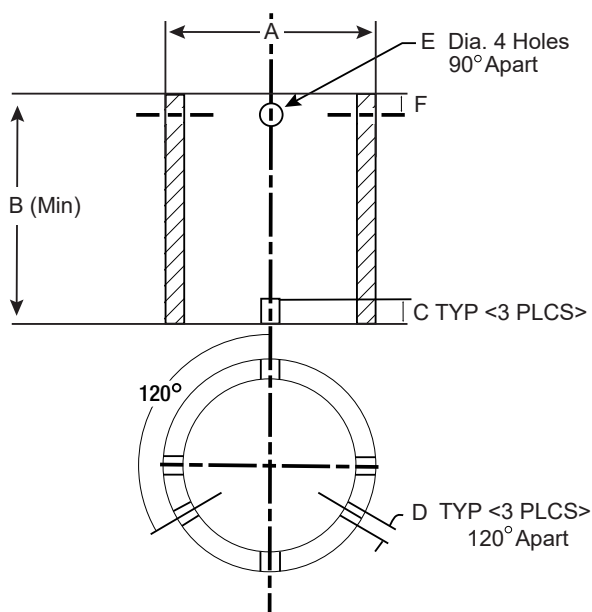
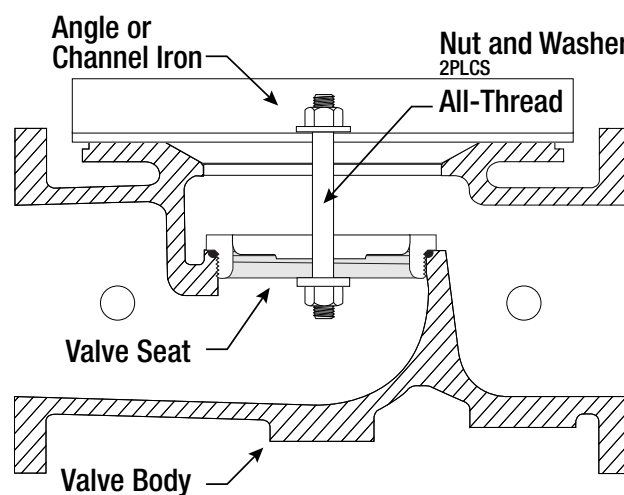

Figure 6
Figure 7
7. Inspect valve seat. If seat is not damaged, removal is not necessary. Valve seats 6" and smaller are threaded into the body of the valve and require a seat removal tool (Figure 6) (Table 1 details the tool dimensions for seat removal). Valve seats 8" and larger are held in the valve body with stainless steel cap screws. Remove seat retaining screws and lift seat straight up (Figure 7).